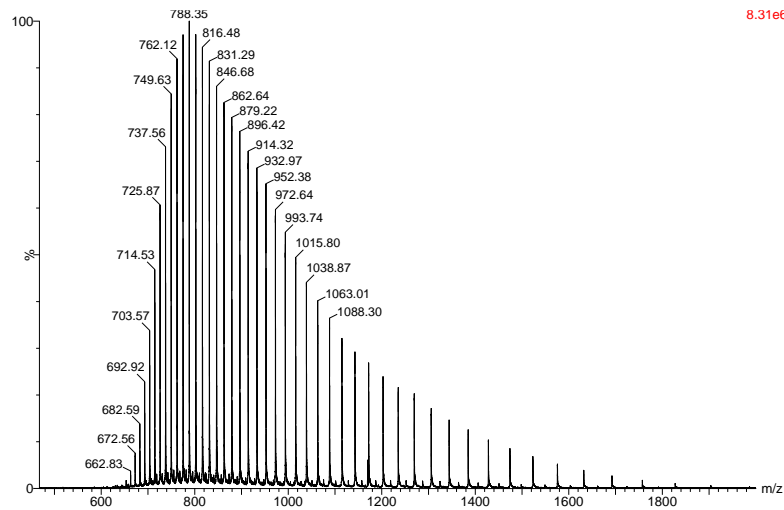

Figure 1. Example protein spectrum
- o Figure 1 shows an example spectrum with the many different charge states of the protein